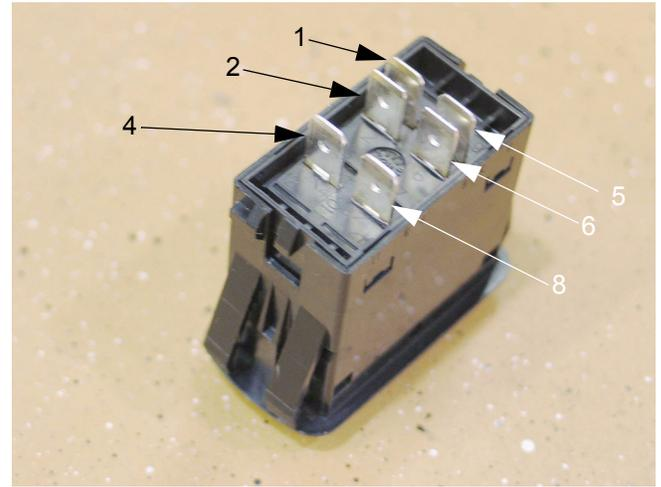

Figure 28.16
28.16. There are six spade terminals on the back of the deck wing lift control switch, oriented in two columns of three: See Figure 28.16.